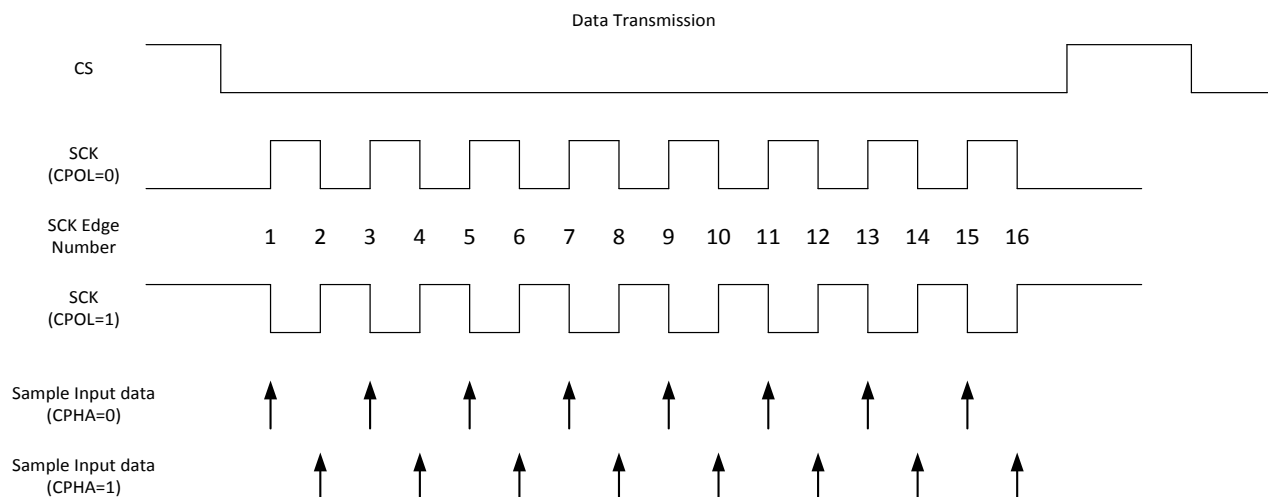

Figure 2.5-7. SPI transmission formats
- The maximum SCK frequency supported is 48 MHz with CPOL and CPHA features. CPOL defines the SCK polarity. CPHA defines the legal timing to sample data. The detailed timing diagram of the SCK and CS is shown in Figure 2.5-7.